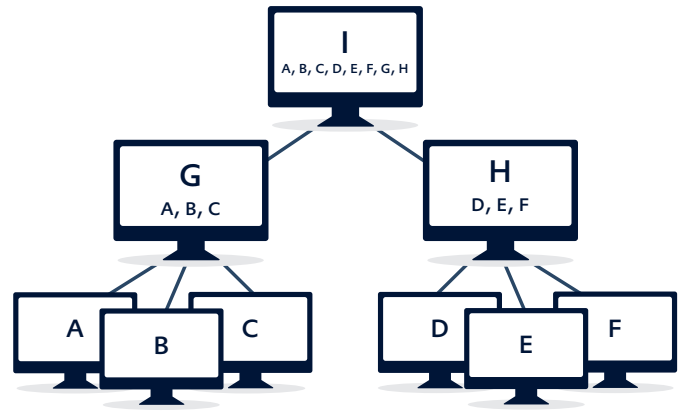

Figure 2: Classic hierarchical network structure
At the lowest level, there are servers A-F and at the mid-level there are two machines that have a mixed role. They are the client for projects A-F and the servers for the independent projects G-H. In addition, the top machine I is a multi-client for all projects A-H and also has a local project running (I) which is defined as a single-user project. This uppermost project is nominated in the zenon integration project (I project) or alternatively the main project. It is the project that must be set as the start project. (see Figure 2)